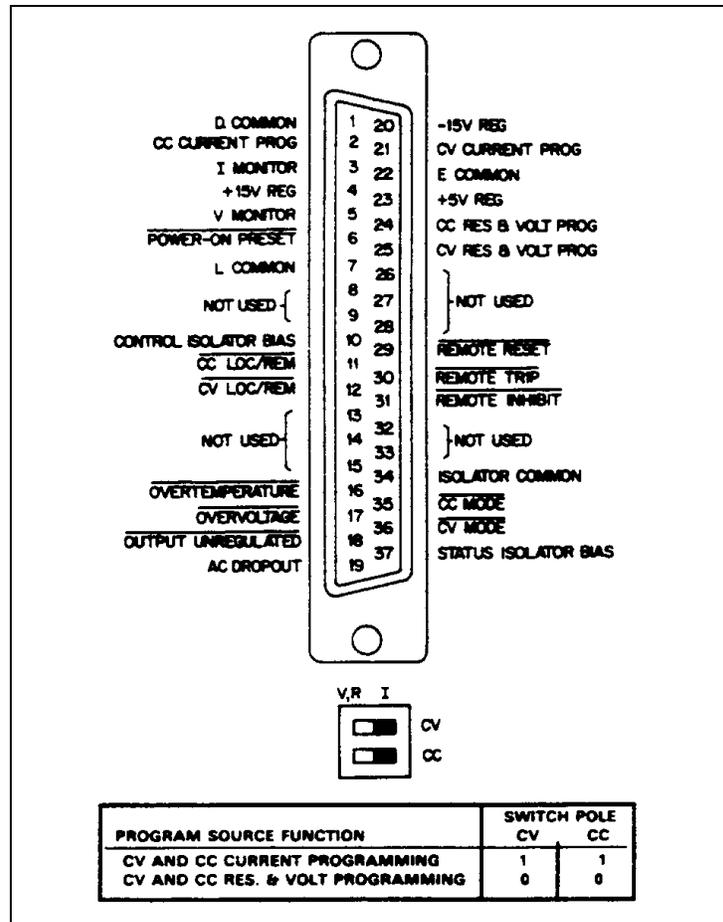

Figure A-2. 002 Option Rear Panel Connector J3 and Switches A1 and A2.
Next switch A1 and A2 also on the rear panel, to the correct program source function, see Figure A-2. All connections are made at the 37-pin rear panel connector J3, and can be wired directly into the mating connector supplied for this purpose.
Check switches A1 and A2 on the rear panel, they must be in their correct positions for CV and CC resistance/voltage programming (see Figure A-2). A resistance variable from 0 to 4K ohms can be used to program the output voltage or current from 0 to full scale. To program the output voltage, connect the variable resistance between J3-25 (CV RES/VOLT PROG.) and J3-22 (E COM.). To program the output current, connect the variable resistance from J3-24 (CC RES/VOLT PROG.) to J3-22 (E COM.).
**Remote Voltage Programming (Figure A-6).** Check switches A1 and A2 on the rear panel, they must be in the correct positions for CV and CC resistance/ voltage programming (see Figure A-2). A voltage source variable from 0 to 5 volts, can be used to program the output voltage or current from 0 to full scale. The load on the programming source is less than 1mA. To program voltage, the voltage source should be connected from J3-25 (CV RES & VOLT PROG) to J3-22 (E COM). To program current, the voltage source should be connected from J3-24 (CC RES & VOLT PROG) to J3-22 (E. COMMON). If the programming lines become open circuited (user's system becomes disconnected from J3) during voltage programming, the Programming Protection circuit will reduce the power supply output to zero.
**Current Programming (Figure A-7).** Check switches A1 and A2 on the rear panel, they must be in the correct positions for CV and CC current programming (see Figure A-2). A current sink variable from 0 to 2mA, can be used to program the output voltage or current from 0 to full scale (see Figure A-7). The following paragraph provides a brief circuit description, refer to schematic diagram.